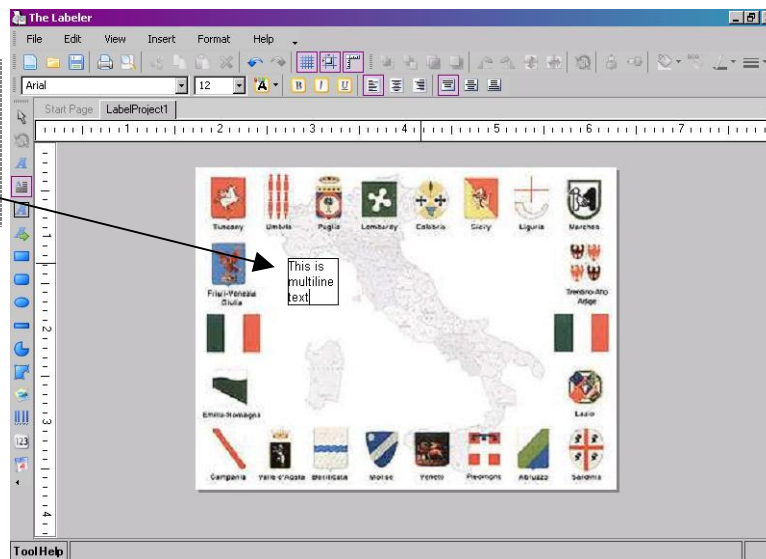

Figure 3.4.2.3: Typing Multi Line Text
4. Press the enter key once you have finished typing in text that you want (see Figure 3.4.2.4).